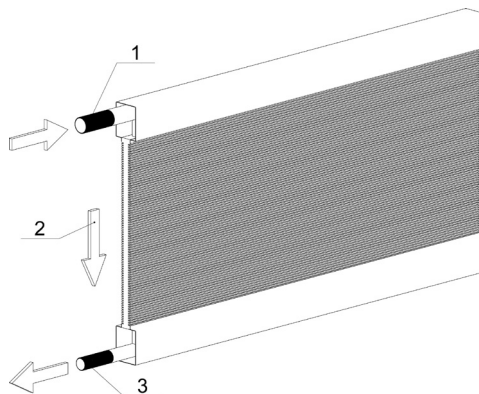

Figure 6.3.5.1. Steam heater
2. Connect coil with steam to the upper pipe and the return to the lower pipe (Figure 6.3.5.1).